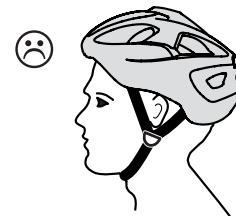

Fig. 1b
- If the helmet is too far back, your forehead is not sufficiently protected. (Fig. 1b)